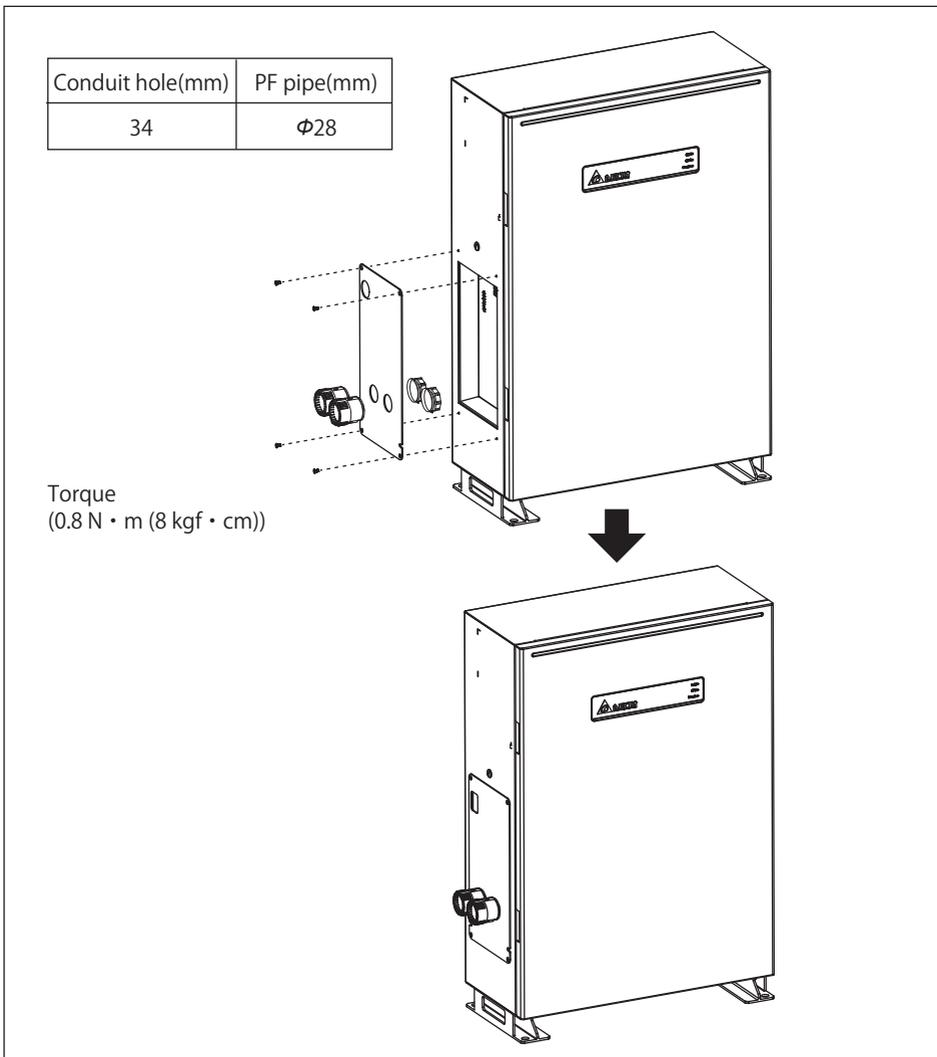

Figure 3-8 : Install the wiring cover on BX6.3_AC
- Recommend screw type/ PF pipe/ conduit are shown in **figure 3-8**.